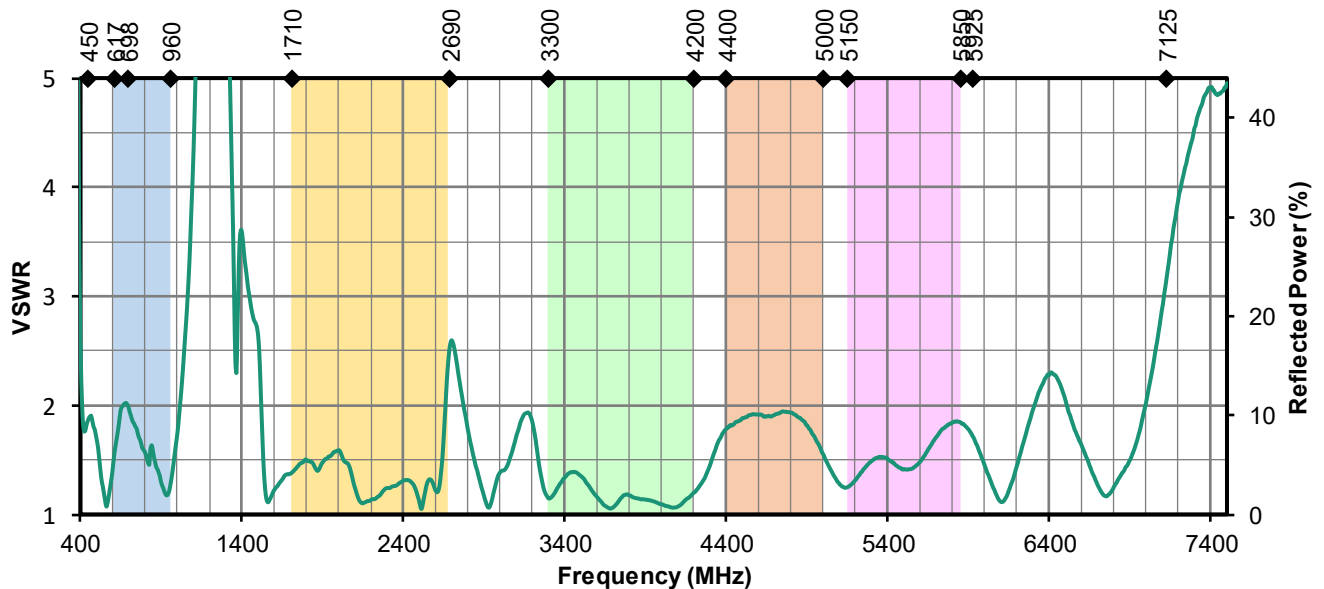

Figure 4. Antenna VSWR, Bent 90 Degrees
**Figure 4** provides the voltage standing wave ratio (VSWR) across the antenna bandwidth. VSWR is a function of the reflection coefficient, which describes the power reflected from the antenna back to the radio. A lower VSWR value indicates better antenna performance at a given frequency. Reflected power is also shown on the right-side vertical axis as a gauge of the percentage of transmitter power reflected back from the antenna.